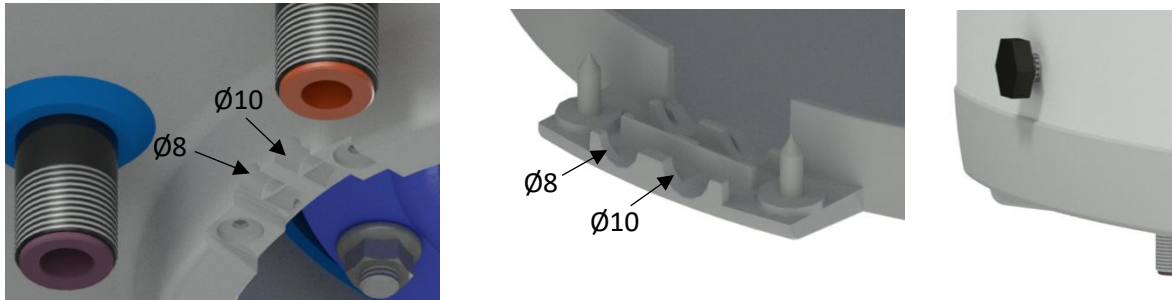
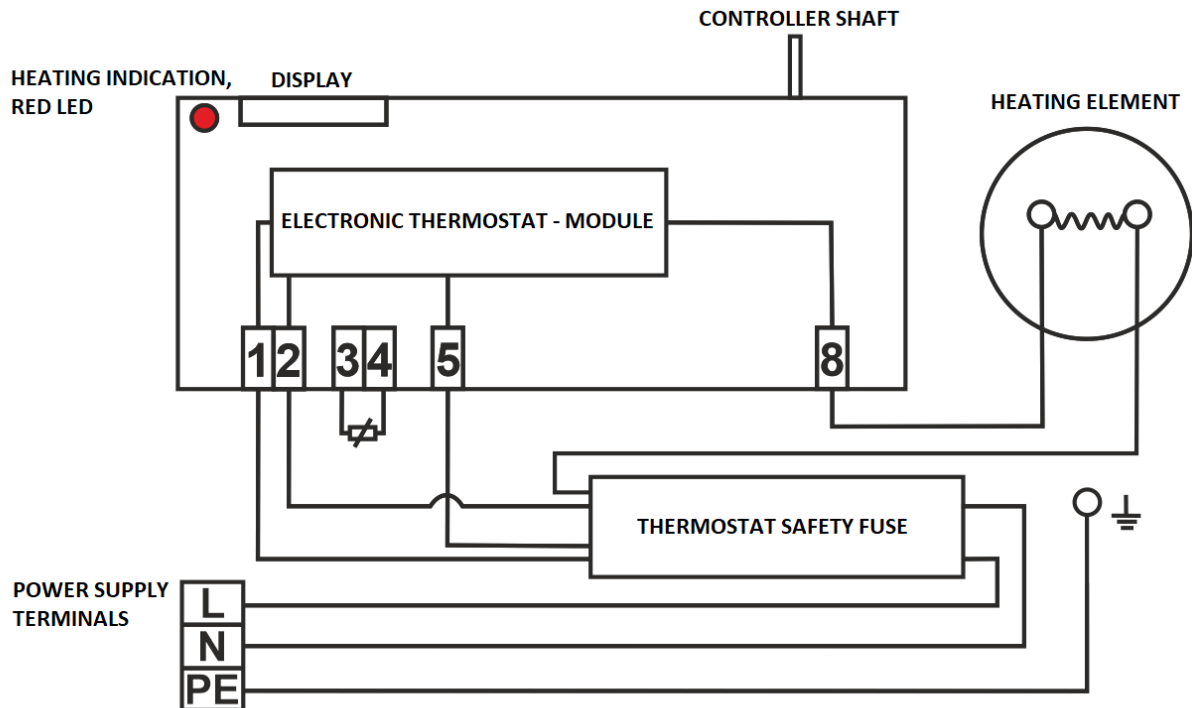

Figure 6
Figure 7
Perform the connection according to the scheme. Factory connection must not be changed! (Figure 7) the electric wiring casing remove the partition corresponding with the input wire diameter of $\varnothing 8$ or $\varnothing 10$ (Figure 6). The degree of protection of electric parts of the heater is IP 44. Power input of electric element is 2200 W.
- The electric wiring scheme is attached to the water heater on the side of the electric installation guard (Figure 7).